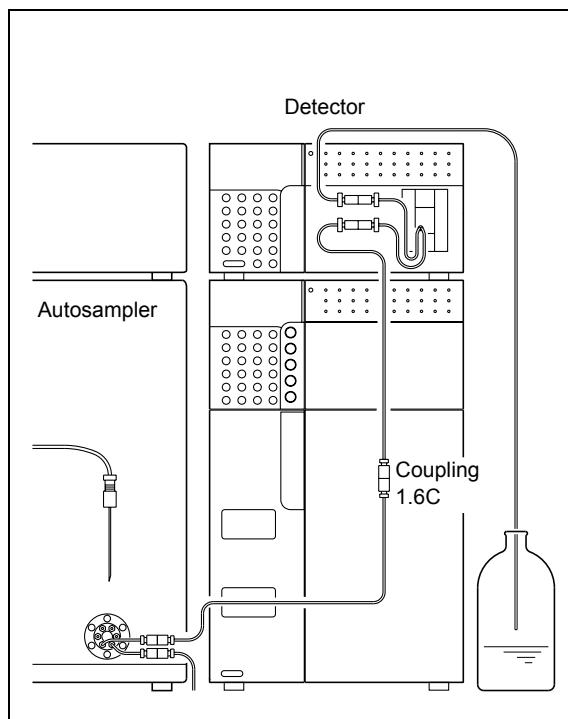

Fig. 7.5
- 3** Clean the system flow lines. There are different cleaning cases as described below. Before cleaning the flow lines, be sure to remove the column from the system, and connect the column inlet and outlet with a coupling 1.6C ("Fig. 7.5").